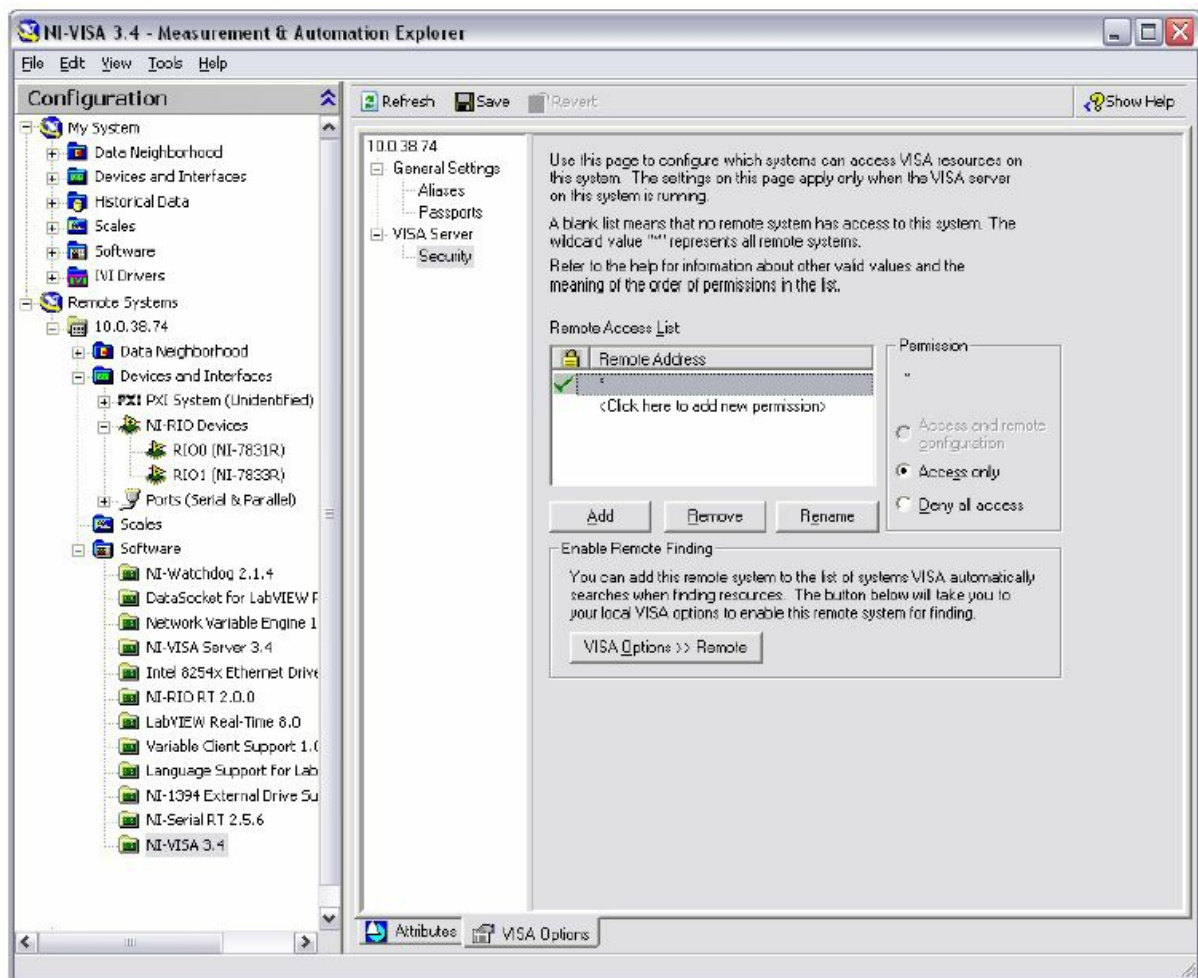

Figure 1. Setting Access Permissions for Remote Systems
4. On the VISA Options page, select VISA Server» Security to view the Remote Access List, as shown in Figure 1.